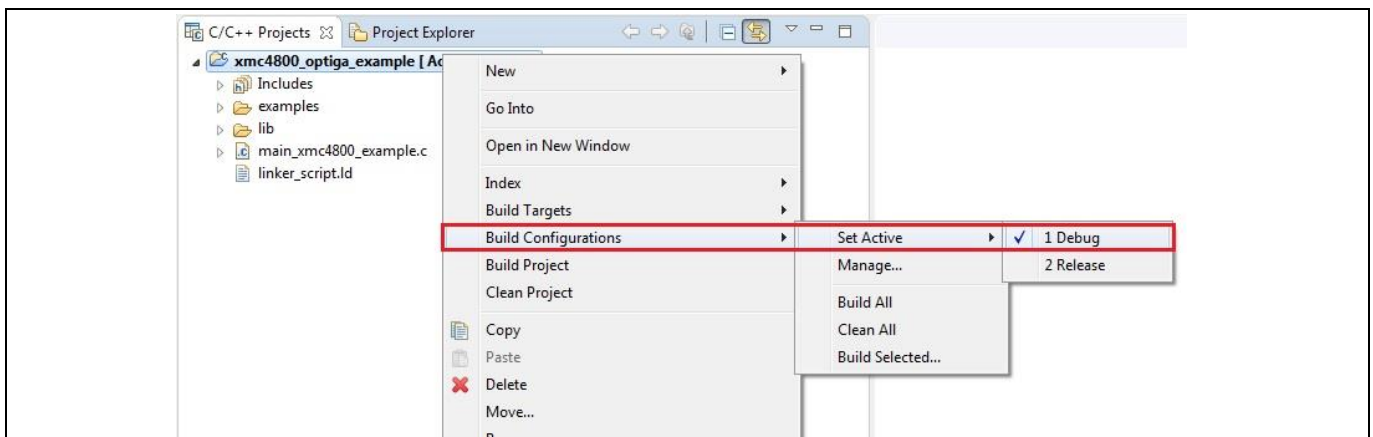

Figure 24 Build configuration selection
15. To build project in release configuration, select the build configuration as **Release** as shown in Figure 24 and build the project again.